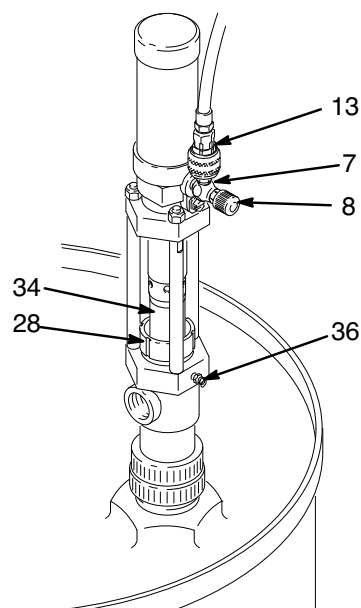
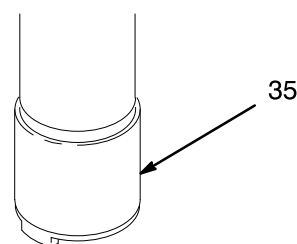

FIG. 4
FIG. 5
Normally, the Feed Pump air valve is opened before any other equipment in the spray system is turned on. This is so fluid can be supplied to the components immediately. For shutdown, disconnect the air line coupler (13). See Fig 4.
1. Insert the 14.6 oz. cartridge (16) of IPL in a standard grease gun.
2. At shutdown each day, stop the pump with the rod (34) in the down position, then lubricate the packings liberally with IPL through the grease fitting (36). Proper lubrication prevents pump sticking. See Fig 4.
3. Wipe off the extra, contaminated IPL from around the top of the packing nut (28) and displacement rod (34).
If the air supply is dry, periodically oil the air motor. For manual lubrication, turn off the air, put about 15 drops of lightweight motor oil in the air inlet (7), reconnect the hose, and turn on the air. See Fig 4.
1. Open the air valve (8) or regulator to start the pump. Allow the pump to cycle slowly for at least 5 minutes.
4. Push up on the intake valve (35) check plate to drain the lower part of the pump. See Fig 5.
Periodically, check the tightness of the packing nut (28). It should be tight enough to prevent leakage; no tighter. See Fig. 4. If the leakage cannot be stopped, change the packings to prevent exposure to the fluid being pumped.